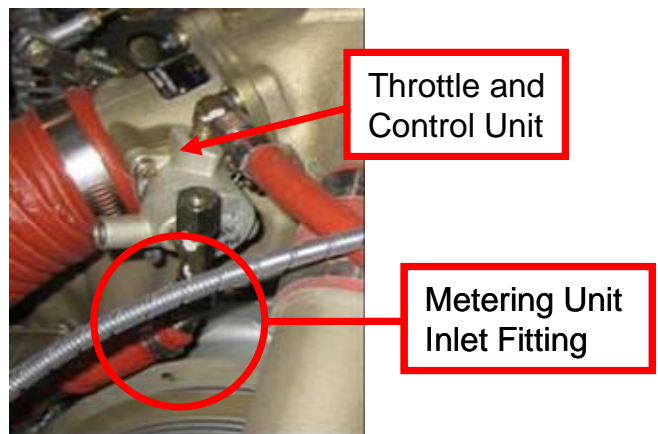

Figure 2
2. Disconnect the induction air hose from the throttle body. Install cap plugs or tape on both the throttle body inlet and the induction air hose openings. Disconnect the fuel line from the fuel metering unit inlet fitting. (Reference Figure 2) Install a cap on the fuel metering inlet fitting.
3. Disconnect the fuel line from the fuel metering unit inlet fitting. (Reference Figure 2) Install a cap on the fuel metering inlet fitting.